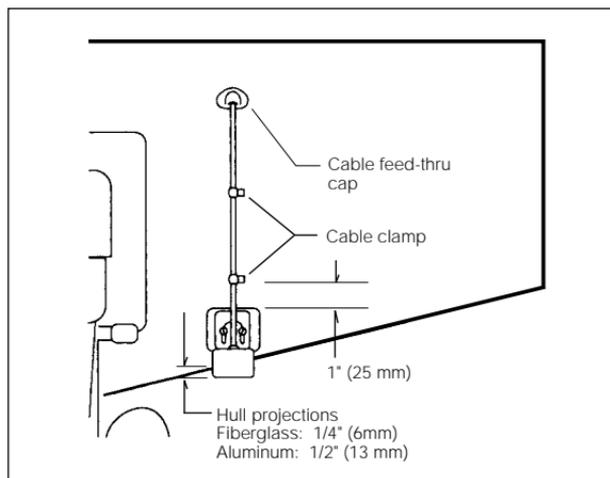

Fig. 2-12
1. Route the cable up and over the top edge of the transom. See Fig. 2-12. Secure the cable using cable clamps. (These clamps are available from your local marine equipment supplier.)